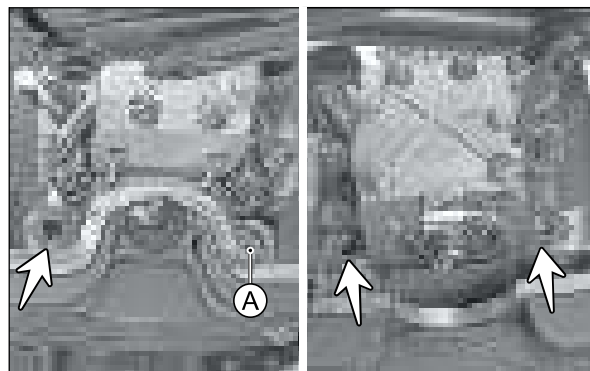

Fig. 3.46
- Remove punched washers (3 Nos.) and a copper washer (A) from the mounting surface of bolt cylinder head. (Fig. 3.46)